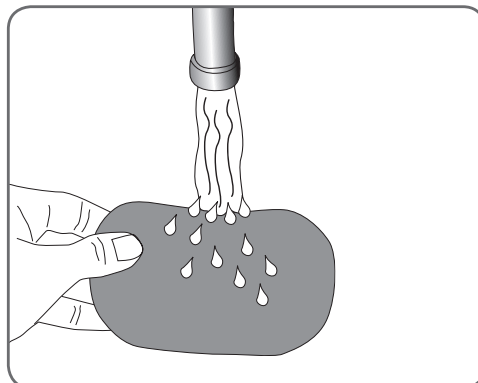

Figure 8-37: Wetting the Thigh cloth electrodes.
1. Wet the Thigh cloth electrodes with water until saturated. See Figure 8-37.